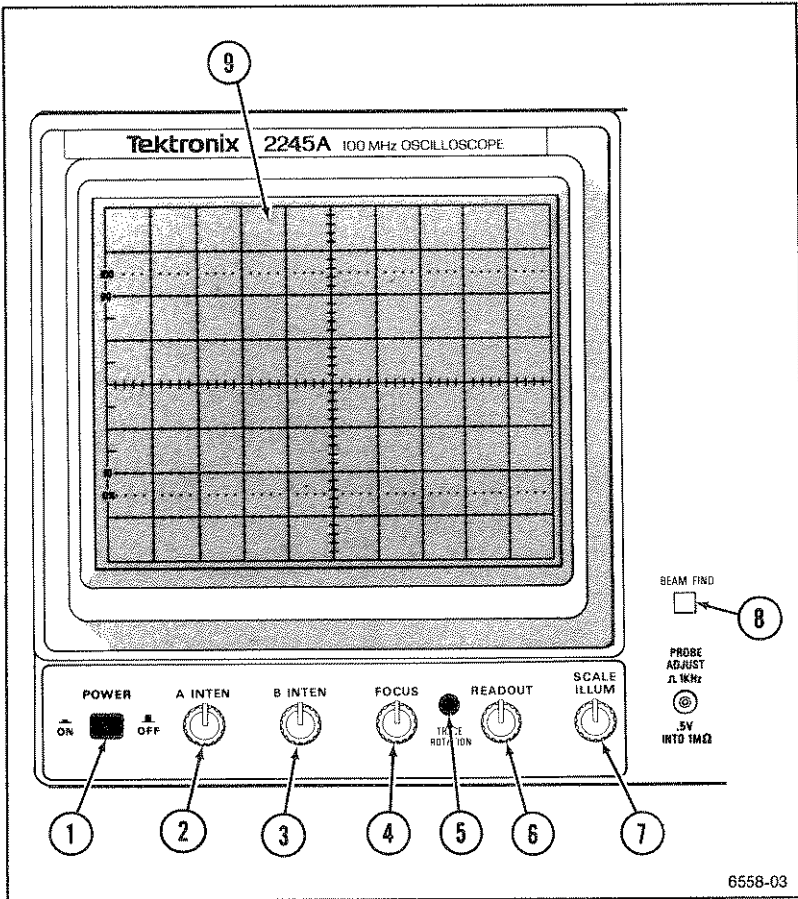

Figure 2-1. Crt, power and display controls.
Refer to Figure 2-1 for location of items 1 through 9.